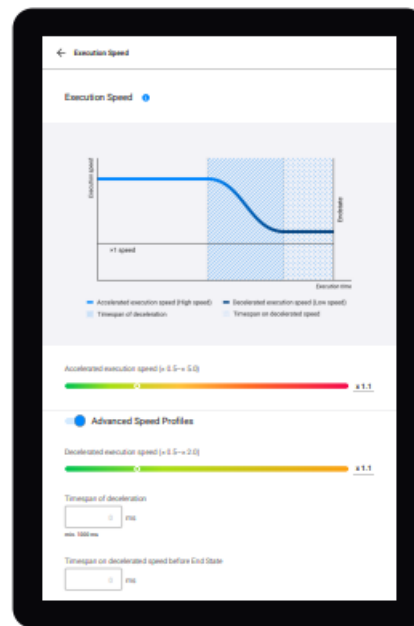

FIGURE 10
3. You can also increase the speed of the skill execution or define speed profiles for skills to further optimize the execution time (Figure 10).14